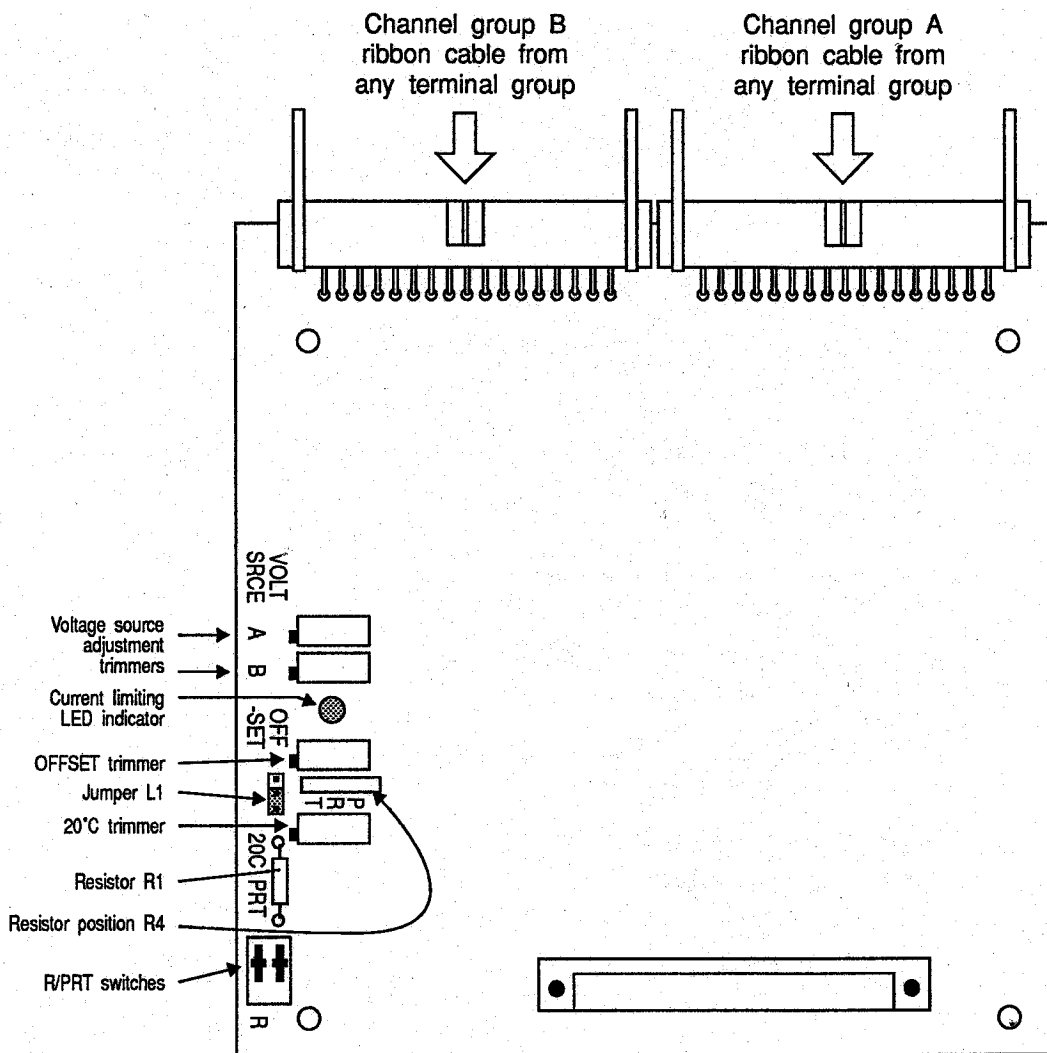

Figure 9 - LFW1 4-wire analogue input card
- Move the jumper L1 to the 'R4' position (the card is supplied with the jumper in the 'PRT' position as illustrated in Figure 9)